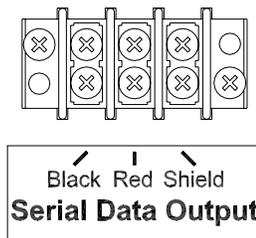

Figure 17 Serial Data Output Wiring Diagram
3. Connect the cable to the terminal block labeled **Serial Data Output** on the junction chassis according to figure 17.